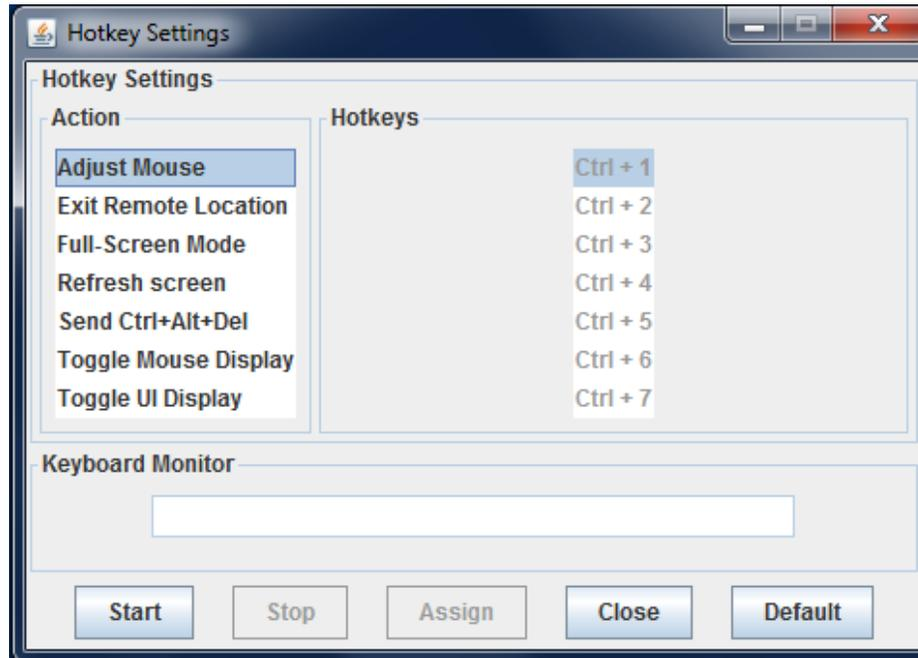

Figure 24. Remote Console HotKey Settings
- **HotKey Settings** – Configure hotkeys as shown in Figure 24. Configure up to seven hotkeys to perform specific functions including adjust mouse, exit remote location, enter full-screen mode, refresh screen, send Ctrl+Alt+Del, toggle mouse display, and toggle UI display.